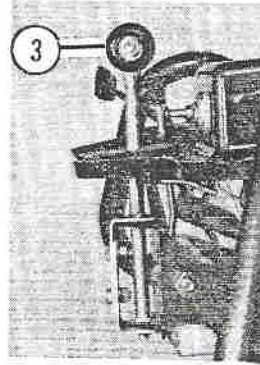

Fig. 27
A. Check control lever for misuse. Repair or replace as necessary (Figures 27 & 28)